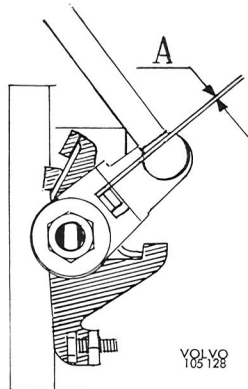

Fig. 2-130. Setting the control (not Canada)
13. Adjust the link rods. With the control against its stop on the manifold bracket, the link rods should be adjusted so that there is a clearance of about .1 mm (.004") between the lever and the flange of the throttle spindle. See Fig. 2-130.